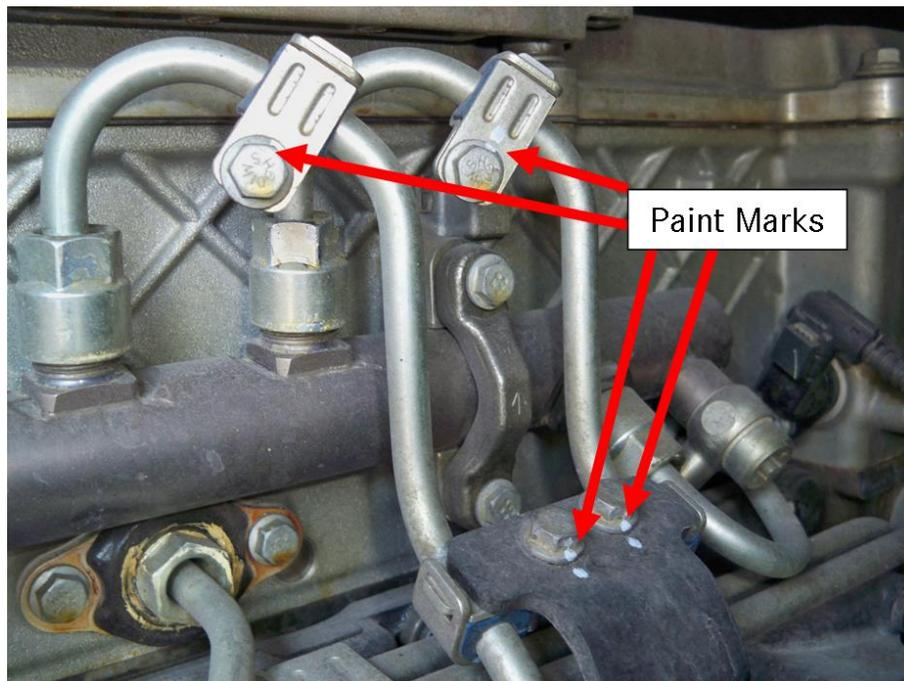

Figure 4 – Paint Marks on Vibration Damper Bolts and High Pressure Fuel Feed Line P-Clip Bolts
- a. If the Return Line P-clip bolt (7) is missing, replace with bolt P/N: N910105006023.
- b. If the Return Line P-clip (3) itself is missing, replace with:
- c. If any of the bolts holding the High Pressure Fuel Feed Line Vibration Dampers (4), High Pressure Fuel Feed Line P-clips (6), or High Pressure Fuel Feed Line Mounting Bracket (2) are missing or damaged, proceed to step 11.
- d. If any part of the High Pressure Fuel Feed Line Vibration Dampers (4) or High Pressure Fuel Feed Line P-clips (6) are missing or damaged, proceed to step 11.
5. Begin a **PHYSICAL** inspection by doing with the following. See Figure 4.